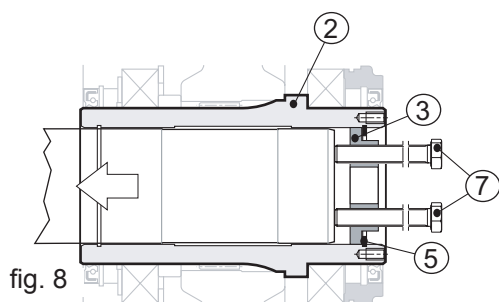

fig. 8
Insert 2 bolts (pos. 7) into the two threaded holes on the backplate (pos. 3) and screw them until they touch the machine shaft (pos. 1). Now give them alternately one full turn each (see Fig. 8).